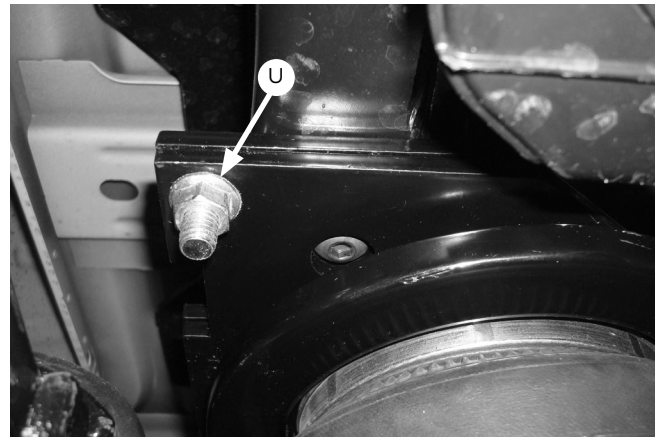

Fig. 29
4. Before proceeding, ensure the 90 degree fittings are pointing inboard toward the center of the vehicle. While raising the axle or lowering the body of the vehicle, align the previously installed upper frame bracket carriage bolts (including the one on the air spring bracket) with the air spring bracket/frame brace holes so the carriage bolts protrude. Cap all the carriage bolts with the 3/8" Serrated flange lock nuts (U) (Fig. 29). Snug the bolts down first then torque to 31 lb.-ft. (42Nm).